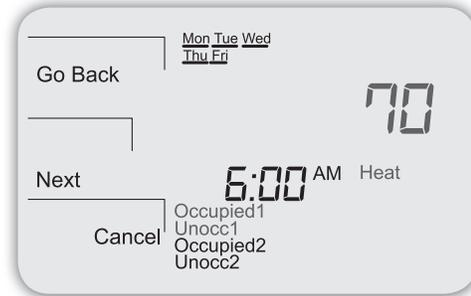

Figure 30. In School Schedule Enabled, *Occupied1* flashes and Heat Setpoint appears.
8. At the flashing *Occupied1* and *Unocc1*, select **Next** (see Fig. 30).
10. Press **Next**. **Note:** Heat Setpoint appears (flashing) in upper right (see Fig. 30).